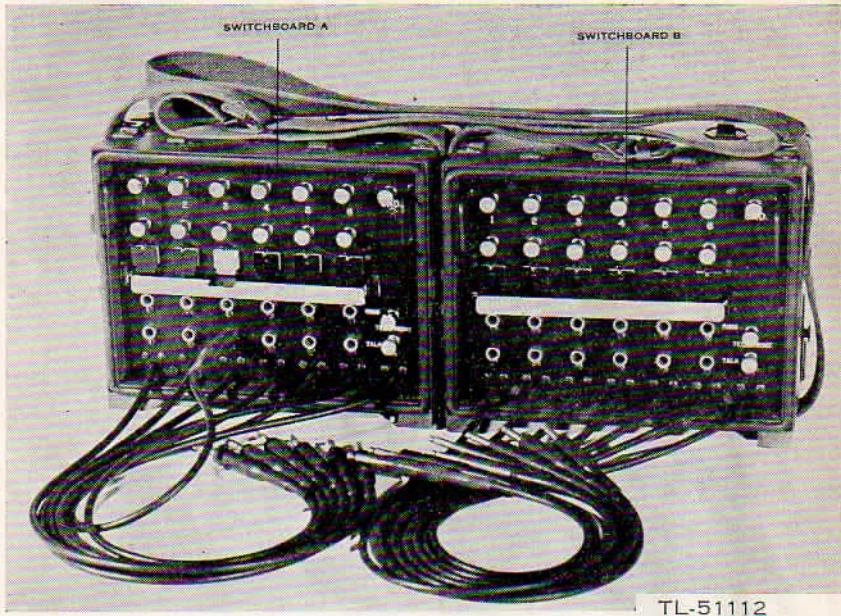

Figure 5. Two Switchboards SB-5/PT, Nested side by side.
(1) **SIDE BY SIDE** (fig. 5). Remove the covers and snap them to the back of each switchboard. Holding the switchboard on the left in place (switchboard A), slide the second switchboard (switchboard B) with a *downward* movement until it snaps into place.